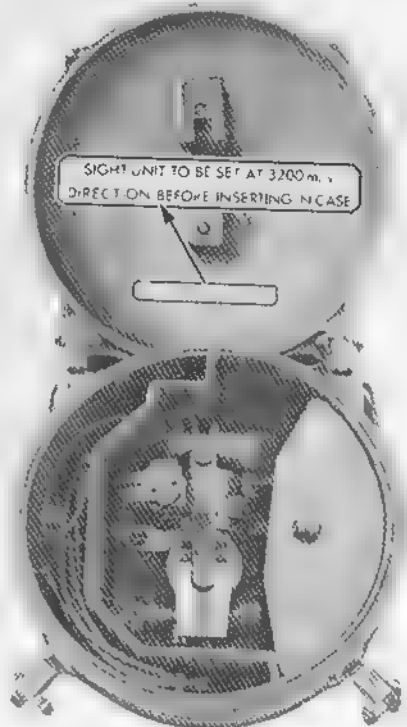

Fig 3.—Dial sight packing
- a. The dial sight provides an auxiliary method of aiming at a target and will be taught in the later lesson. It fits into its box with its bracket uppermost (see Fig 3).